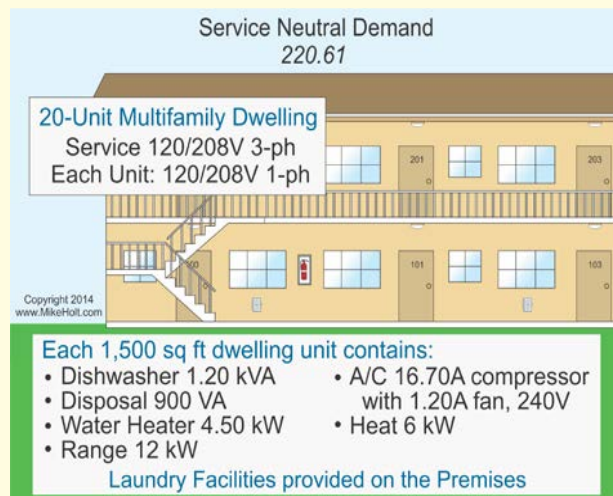

Figure 10–44
Question: What size service and service conductors are required for a twenty-unit multifamily building having the following loads in each 1,500 sq ft unit? **A separate laundry facility** is provided on the premises [210.52(F) Ex 1]. Figure 10–44